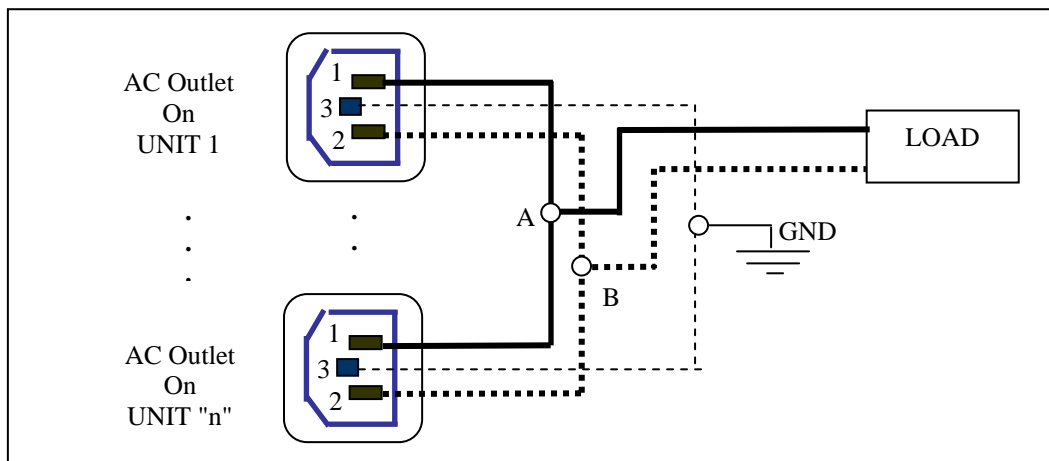
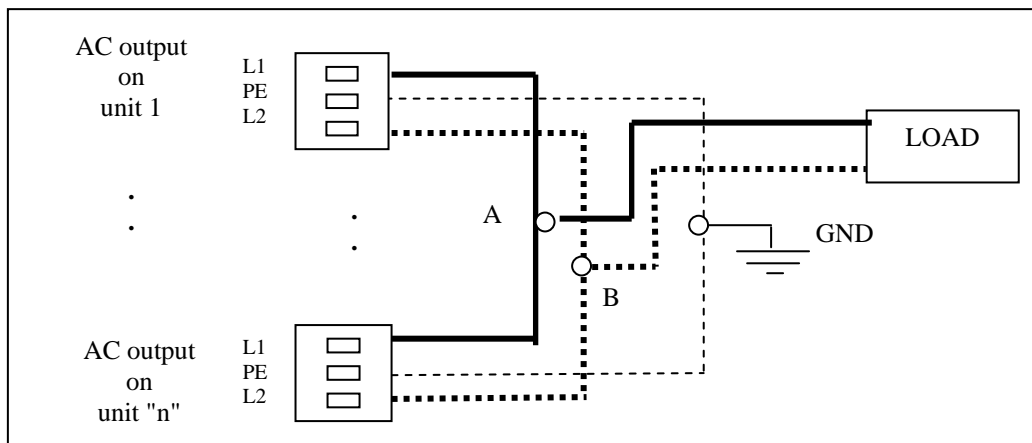

Fig.4 - AC output connections for n-inverters in parallel configuration – models with plug connectors -
Fig.5 - AC output connections for n-inverters in parallel configuration – models with screw terminals
2. Be careful to use cables with **the same section and length** for each inverter, from the outlet terminals to the common points A, B, GND, as shown in the Fig. 4.
3. Connect the load to the inverter as described in paragraph 4.2.2. Make sure that the length and the section of the cables between each unit and the common point of the load are the same (Fig.4, Fig.5)